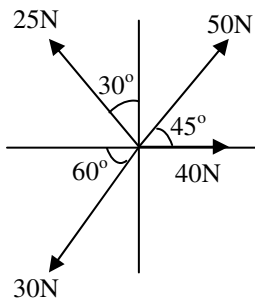

figure 1 [Q-1(b)]
- (b) Determine magnitude and direction of resultant force of the force system shown in **figure 1**. **04**